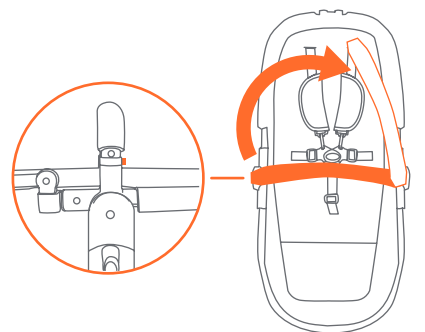

Fig. 8b
- To detach bumper bar, press the release button on the bottom of the bar and pull bar out of the anchor. Swing the bar upwards to access the seat (Fig. 8b).